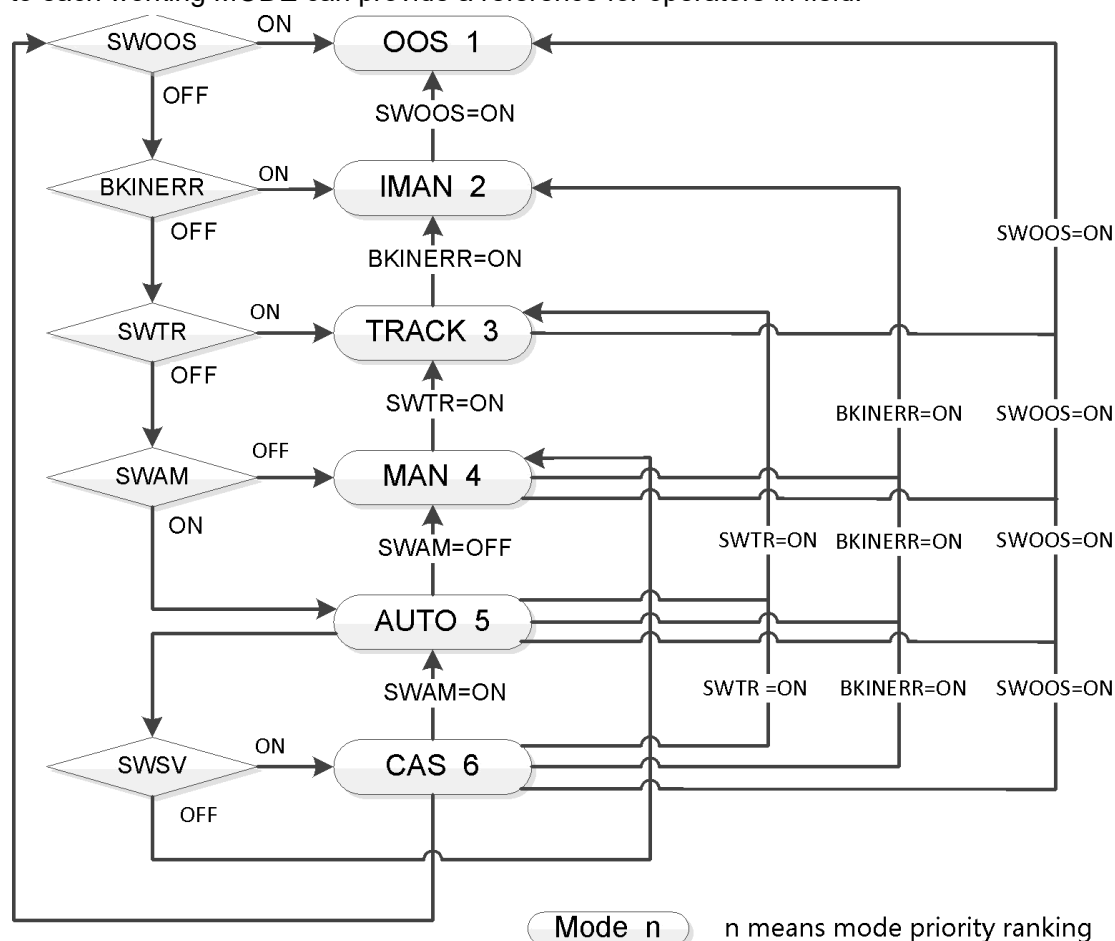

Figure 3.2 Manual fallback mode of control function block
- Manual fallback refers to the function block falls back from the initial status IMAN mode or TR mode to manual MAN mode. By default, the fallback mode of the function block is manual fallback (ie, MODE_OPT=OFF). The manual fallback process of the control function block is shown in Figure 3.2.